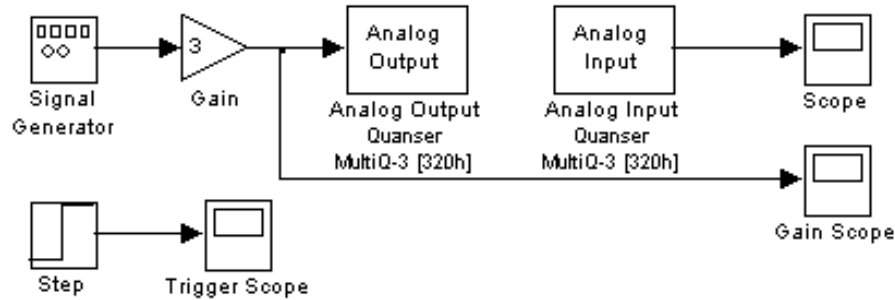

Figure 15: SIMULINK Loopback System
2. Generate the SIMULINK diagram shown in Figure 15. We will generate a sinusoidal output and measure the voltage using an analog input channel.